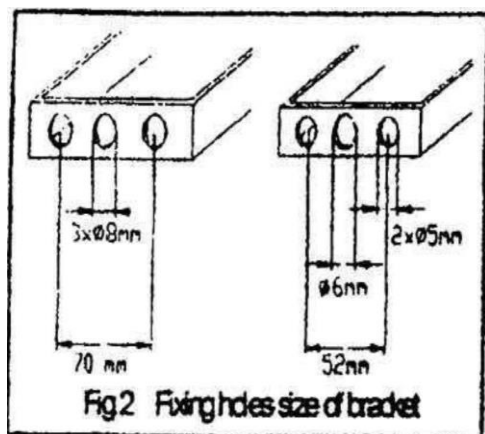

Fig.2 Fixing holes size of bracket
3. The distance between the item and the objects must be more than 1M. Mark the hole positions for fixing bracket onto the wall. Drill and plug the wall at the marked positions. Screw the fixing bracket to the wall with suitable screw (not supplied). (See Fig.2)